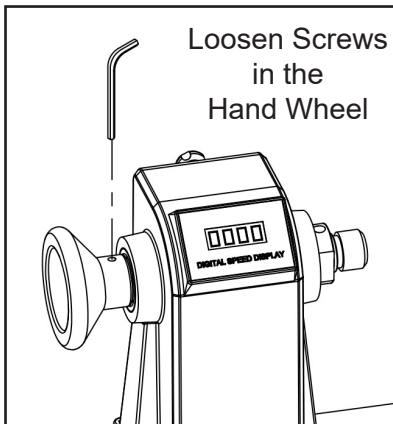
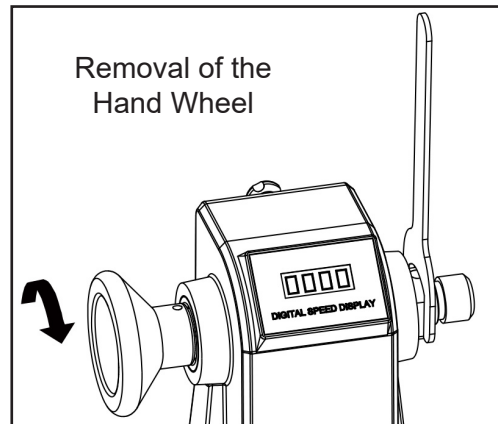

FIG. 17
FIG. 18
2. Remove any accessories from the spindle - spur & live centers, faceplate, chuck, etc.. Loosen the two set screws in the Hand Wheel (FIG. 17), hold the spindle using the Wrench (FIG. 18) and rotate the hand wheel clockwise to remove it.